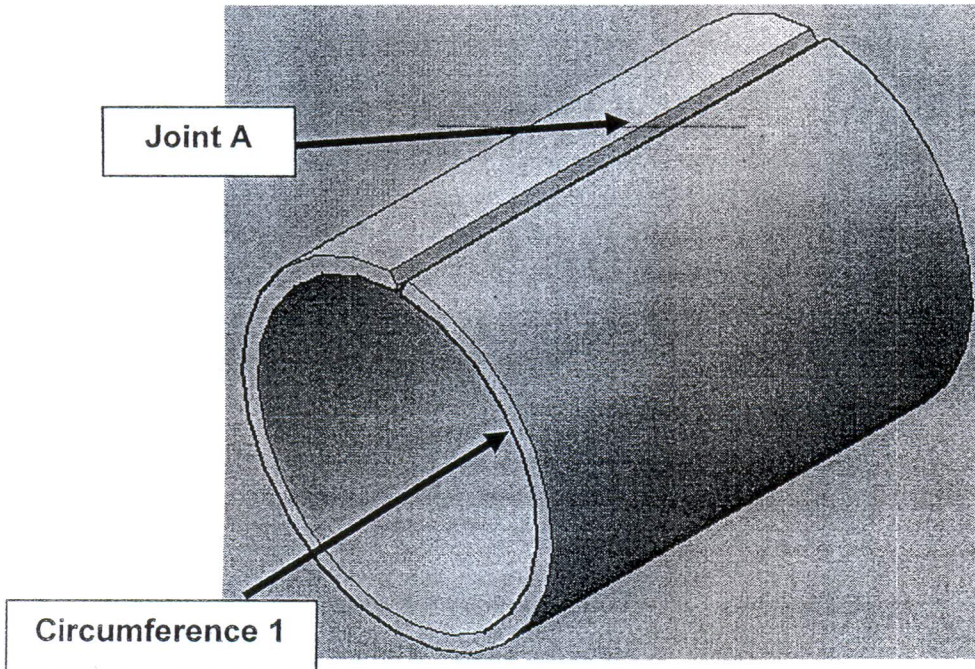

Figure 3: Cylinder
- (b) In figure 3, name and sketch the type of devices that are commonly used for joining the **Joint A** and obtaining correct round for the **Circumference 1**.